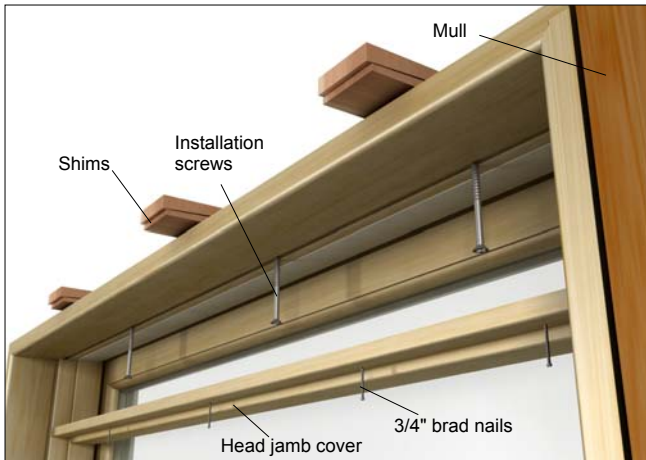

Figure 9 ICA/ICAP additional installation with screws.
2. Shim and fasten through the pre-drilled screw holes using the 3" (76) installation screws. If the pre-drilled holes are missing, drill holes with a 7/64" (3) drill bit. Holes are spaced maximum 8" (203) from each end and maximum 14" (356) between screws evenly spaced.
3. Reinstall head jamb stop and fasten with 3/4" (19) brad nails spaced 6"-8" (152-203) apart. See figure 9.